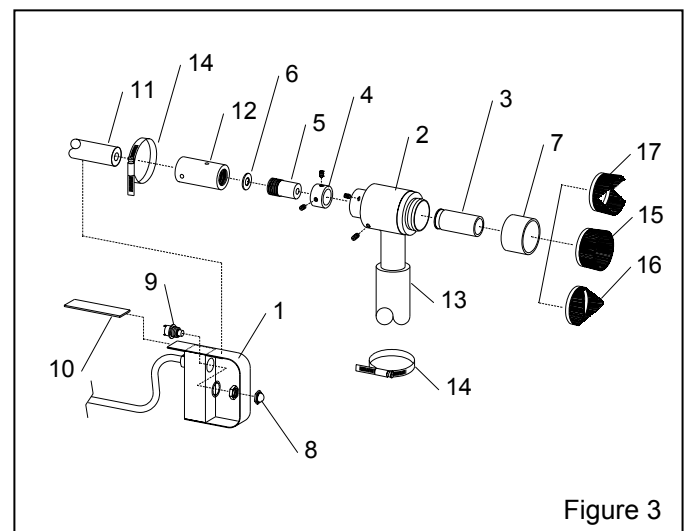

Figure 3
8.1 Blast Head and Control Assembly, Figure 3